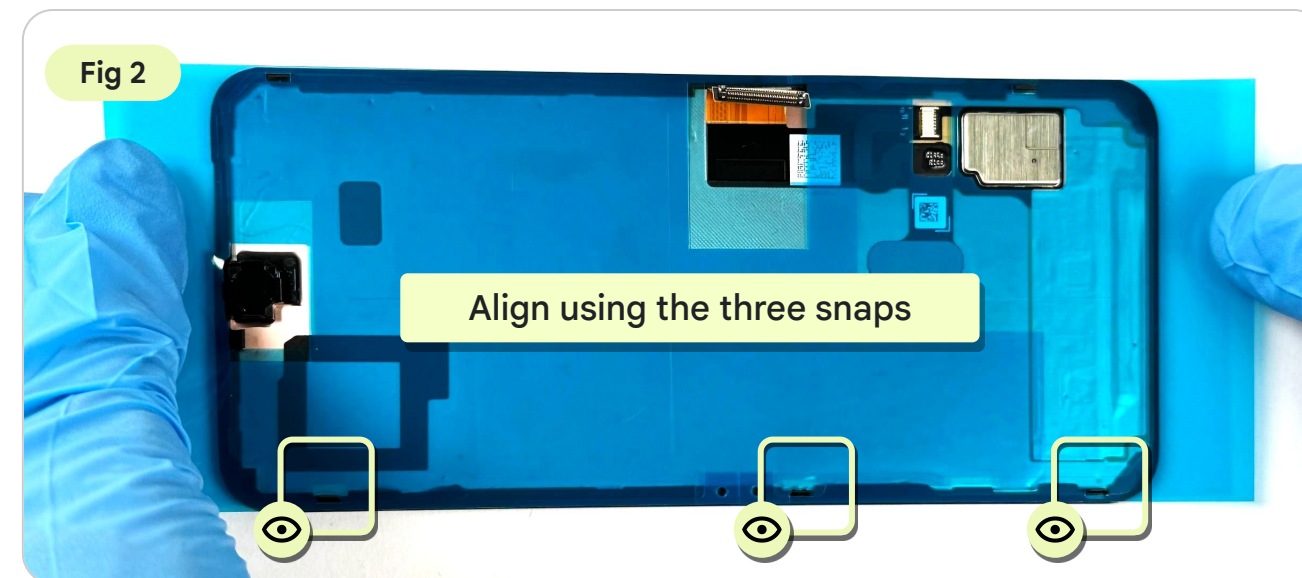

Fig 2
- Place the **Adhesive** with the **3 Snaps** on CG Trim by hand (Fig 2).
- Use the **Universal Disassembly ESD stick** to activate the **Adhesive** (Fig 2).